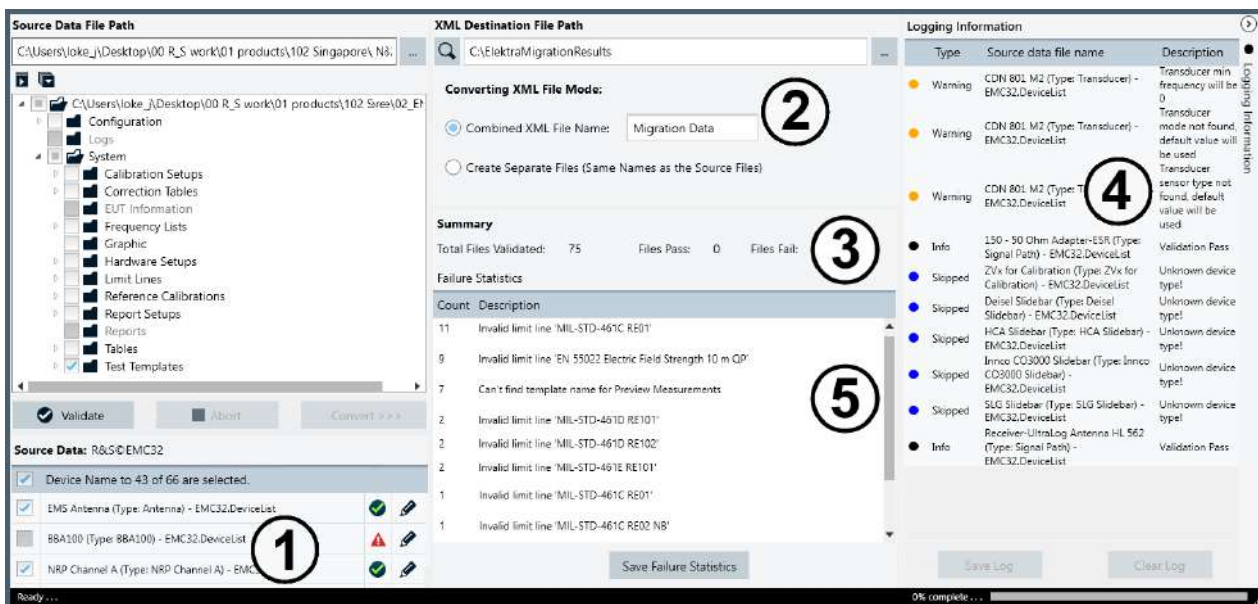

Figure 2-8: Source data selected for conversion to XML data (EMC32)
In the list of "Source Data" files (1), you can select the available files individually. In this dialog section, if you check the checkbox on top of the list, the tool selects all files that have passed validation (see sections (3) and (4) in Figure 2-8).